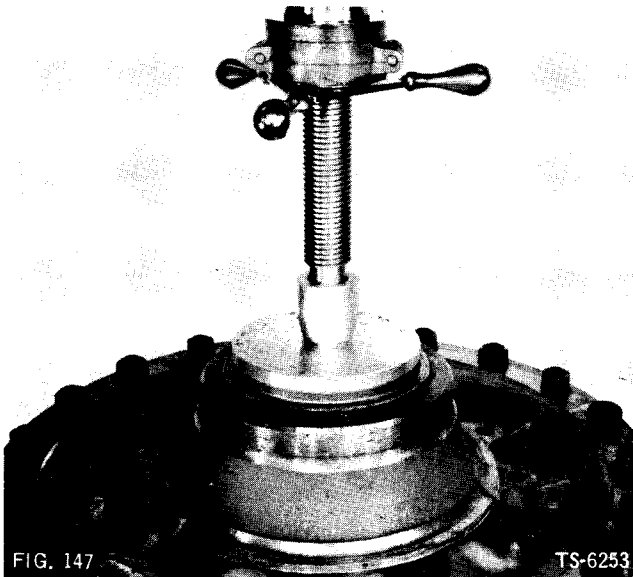

FIG. 147
4. Coat outside diameter of oil seal with Permatex No. 2. Lubricate lip of seal with Lubriplate. Press or drive oil seal into hub using seal driver (Fig. 147). Fig. 148 shows driver dimensions. Spring-loaded lip of seal must face inward. Wipe off excessive Permatex after seating seal.